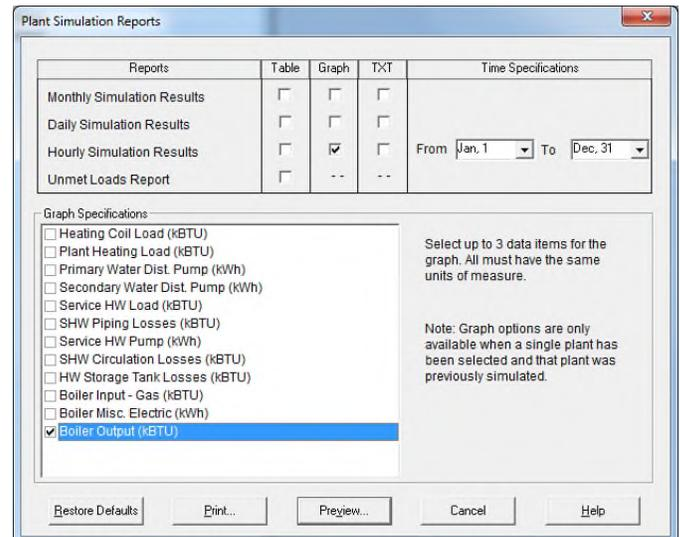

Figure 16.
- d. For the hot water plant request a graph of hourly simulation results for January 1 thru December 31. choose the “Boiler Output” item as the data to be graphed (Figure 16). This will plot the total hourly heating load imposed on the plant, including space heating and SHW loads.